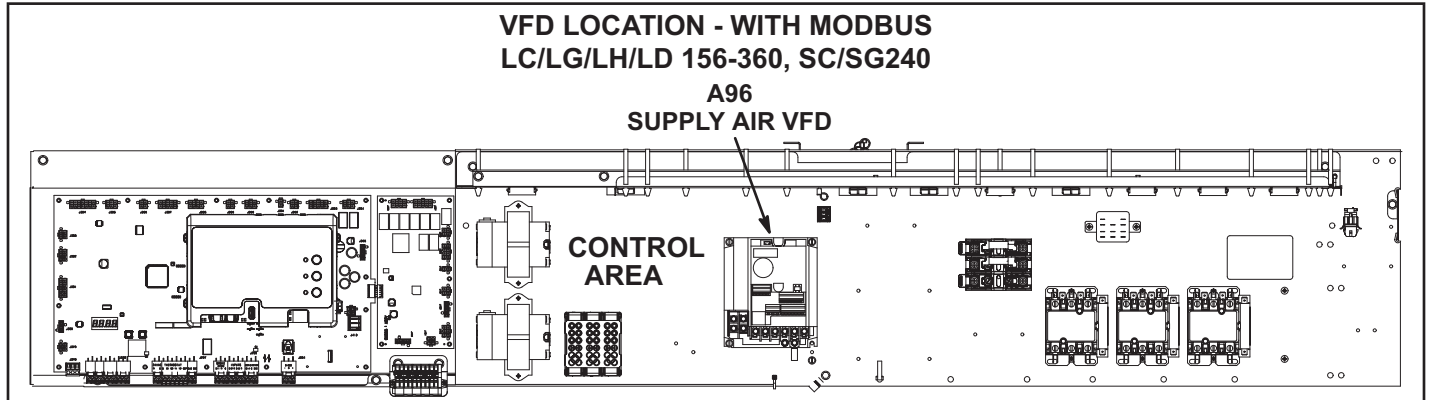

FIGURE 11
- 1 - Disconnect all power to unit and **WAIT AT LEAST 10 MINUTES** before opening the VFD cover. See FIGURE 11 for location.